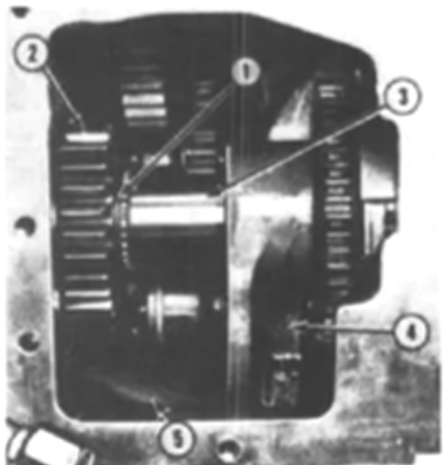
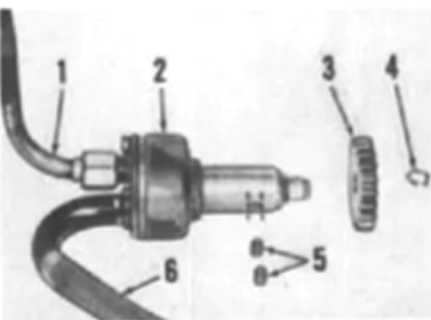

Fig. 85—View of the lube pump on Models 684, 784 and 884 with the MCV removed.
Fig. 86—Lube pump removed from Model 684, 784 or 884. Internal parts are not serviceable.
To remove the lube pump, drain "Hy-Tran" fluid from all compartments. Then, remove the multiple control valve (MCV) and hydraulic pump assembly. With MCV removed, disengage snap ring (1—Fig. 85) and slide gear (2) to the rear. Remove the one cap screw that holds the screen assembly (5) to the pump. Remove the tube nut on line (1—Fig. 86). Unbolt and remove pto clutch cover from right side of rear frame. Remove snap ring (4), gear (3) and set screws (5) that secure pump in position. Pull pressure tube (1) towards the MCV side enough to remove the pump.